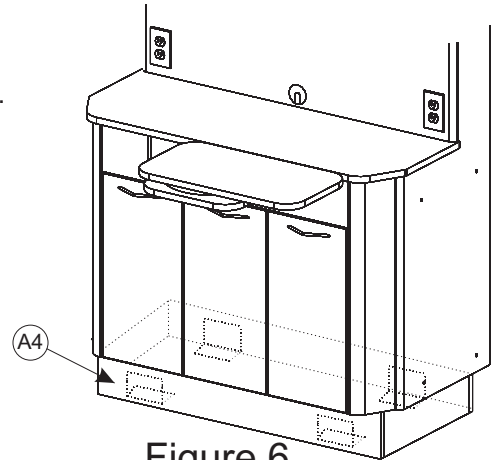

Figure 6
The cabinet may now be moved into its final location and mounted to the floor. Mount the (4) Floor Mounting Brackets (A4) to the floor using proper fasteners for the floor being mounted to (see Figure 6).